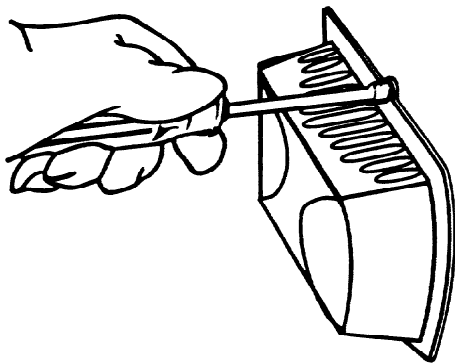

Figure 91
- c. Remove protective bulb shield by using a 1/4" drive or socket wrench. See Figure 91.